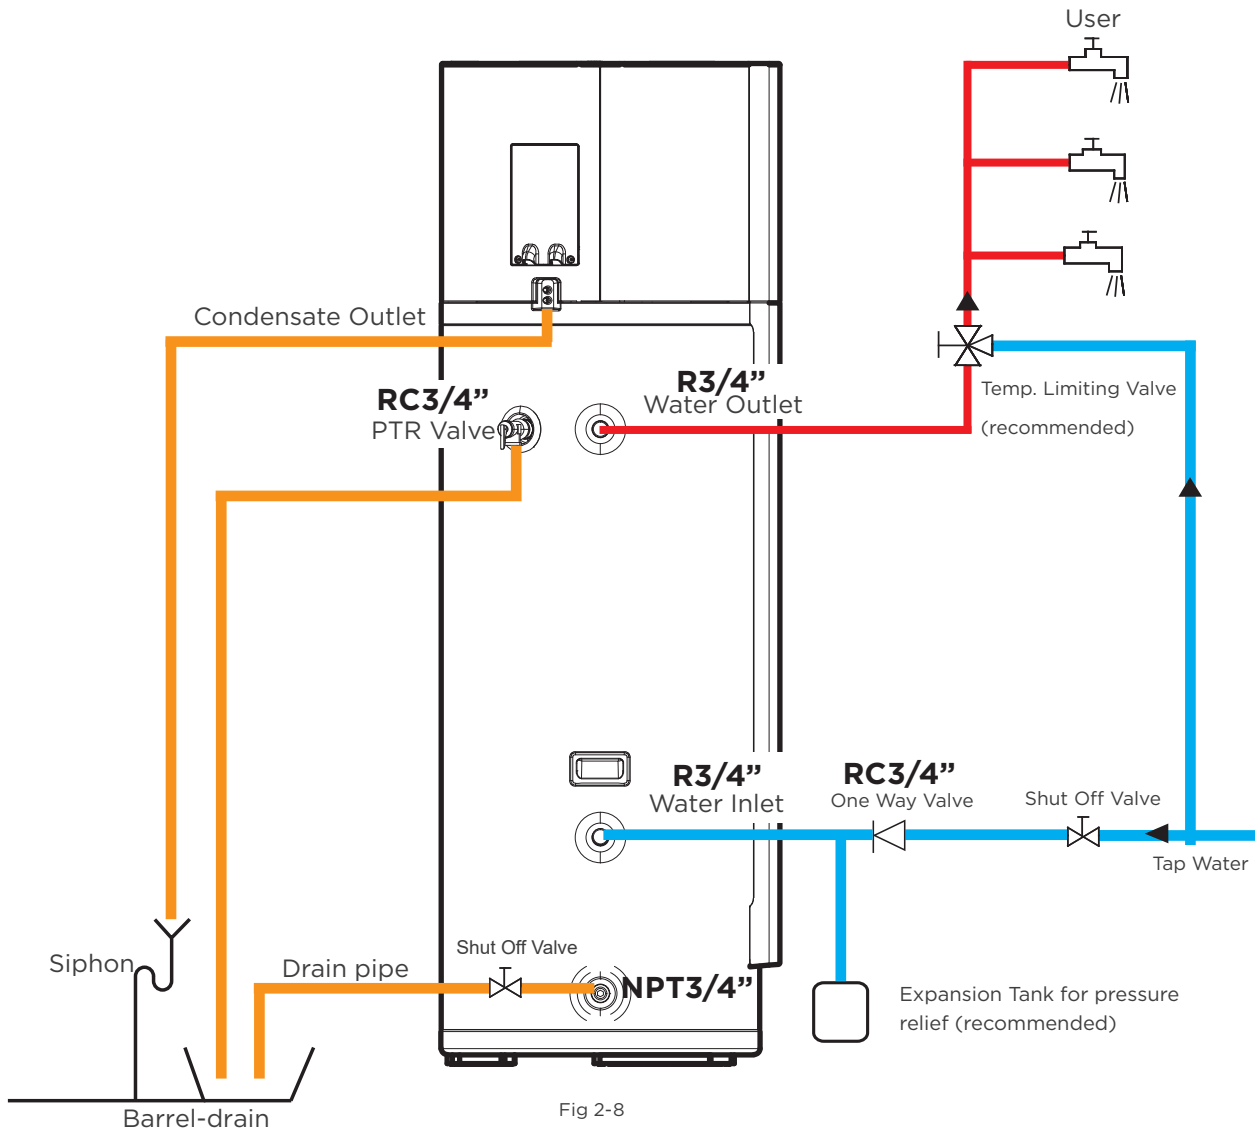

Fig 2-8
- Connect water pipes as the above Figure 2-8 .